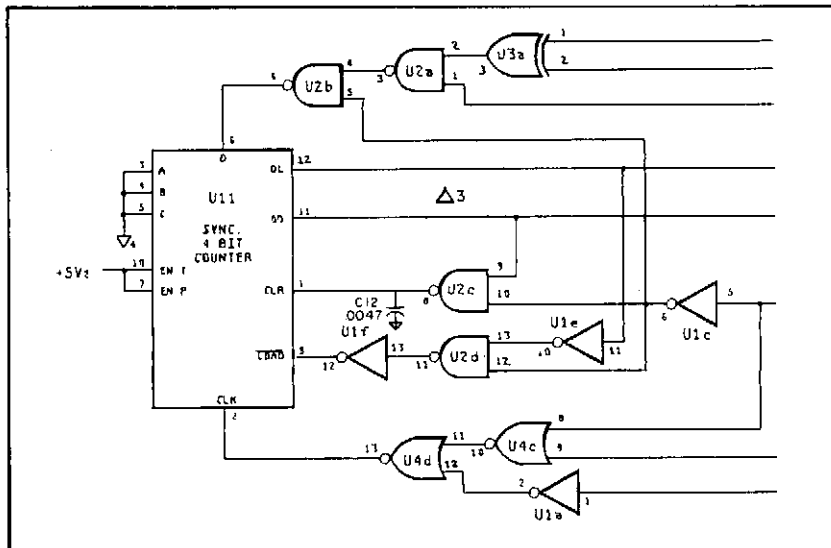

Figure 7-2. Change #3 on Schematic 8
1. Delete A30U25a from the schematic, as shown in Figure 7-2.
2. Connect a .0047 μ F capacitor (A30C12) from pin 1 of A30U11 to ground, as shown in Figure 7-2.